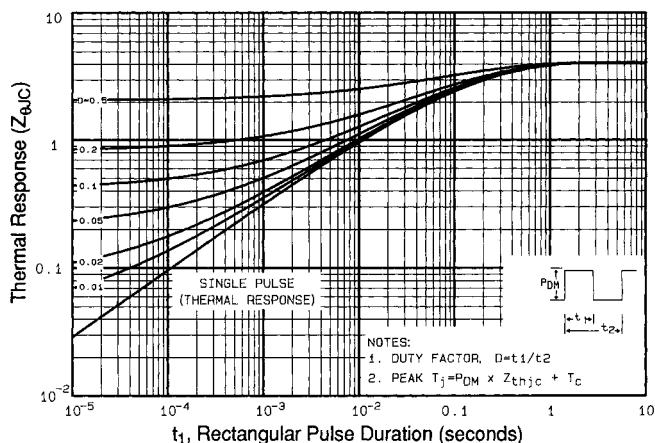

Fig 11. Maximum Effective Transient Thermal Impedance, Junction-to-Case
① Repetitive rating; pulse width limited by max. junction temperature (See Figure 11)
③ $I_{SD} \leq 9.2\text{A}$, $dI/dt \leq 110\text{A}/\mu\text{s}$, $V_{DD} \leq V_{(BR)DSS}$, $T_J \leq 175^\circ\text{C}$ ⑤ $t=60\text{s}$, $f=60\text{Hz}$ ② $V_{DD}=25\text{V}$, starting $T_J=25^\circ\text{C}$, $L=1.0\text{mH}$